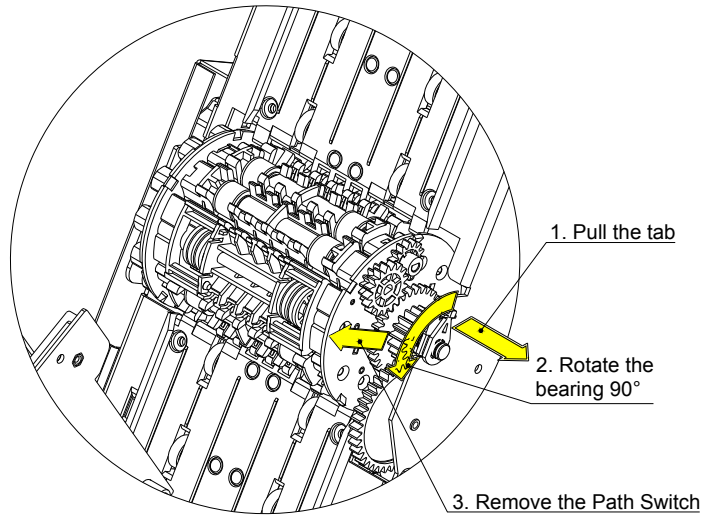

Fig. 15
- Pull the tab and rotate the bearing 90 degrees, as shown in Fig 15.